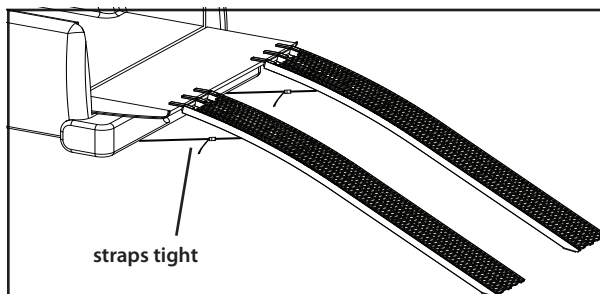

Figure 2
1. On level ground, rest ramps on tailgate. **SEE FIGURE 2.** Be sure ramps are centered on tailgate and aligned correctly to your 4-wheeled ATV or lawn tractor's wheel width.